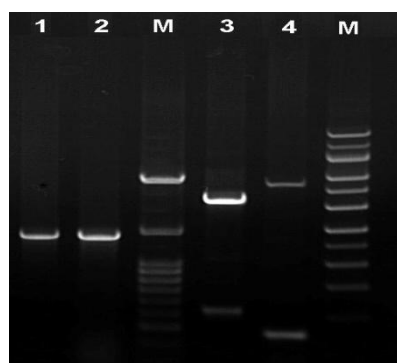

Fig.5. PCR inserts for Fast-Fusion™ cloning.
- PCR amplification and purification:** Taq and other high fidelity DNA polymerases are all suitable for generating DNA fragments for Fast-Fusion™ cloning. After PCR, analyze PCR products by electrophoresis on an agarose/EtBr gel. The QP reagent can be used when only a single band is present (Fig.5). Gel purification is strongly recommended when nonspecific amplification is evident. Quantify the purified fragments by measuring against a known DNA standard running in parallel.